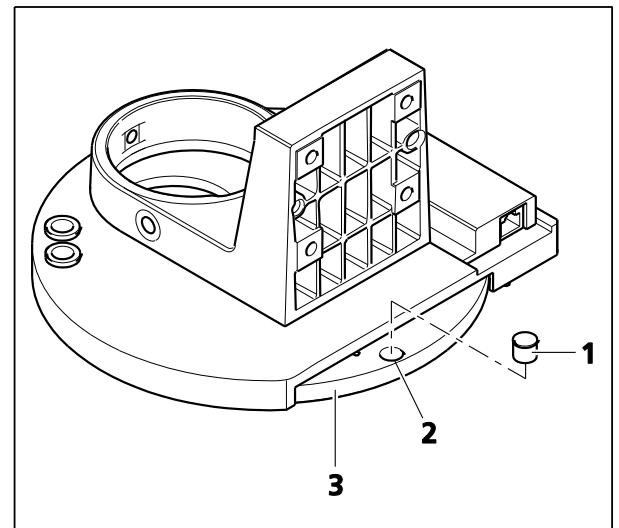

Fig. 25 Inserting a stopper
- Rotate the nosepiece plate (Fig. 25/3) accordingly to make the light opening (Fig. 25/2) of the corresponding nosepiece position accessible at the rear of the nosepiece.
- Put the stopper (Fig. 25/1) from above into the hole, with the taper hole of the stopper facing downwards.